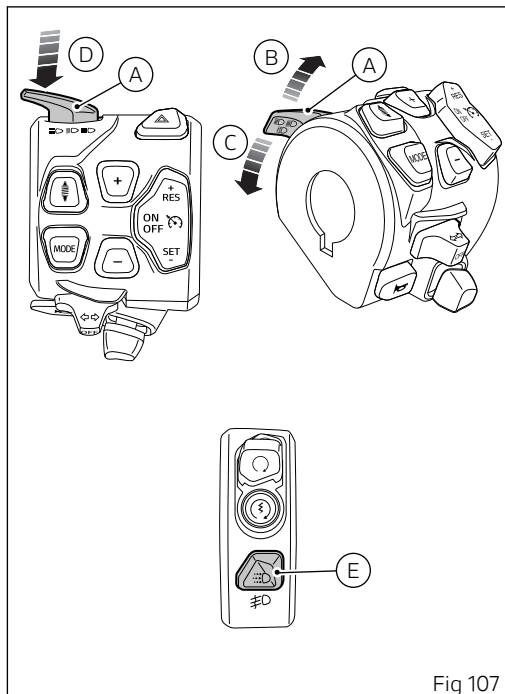

Fig 107
When the DRL is set to "Auto" mode, the corresponding warning light will turn on. If the DRL was set to "Auto" mode, press button (E, Fig 107) to disable that mode and set manual light management. Press again button (E, Fig 107) to re-enable DRL but with control strategy set to "Manual".
If the DRL lights are in this mode, as set through the "DRL" function within the "Setting menu" (page 253) DRL lights will not change their status upon key-on. To switch on or off the DRL lights, it is necessary to press button (E, Fig 107).
- if DRL lights are present, press and hold button (E, Fig 107) for a long time;
- if DRL lights are not present, press button (E, Fig 107).